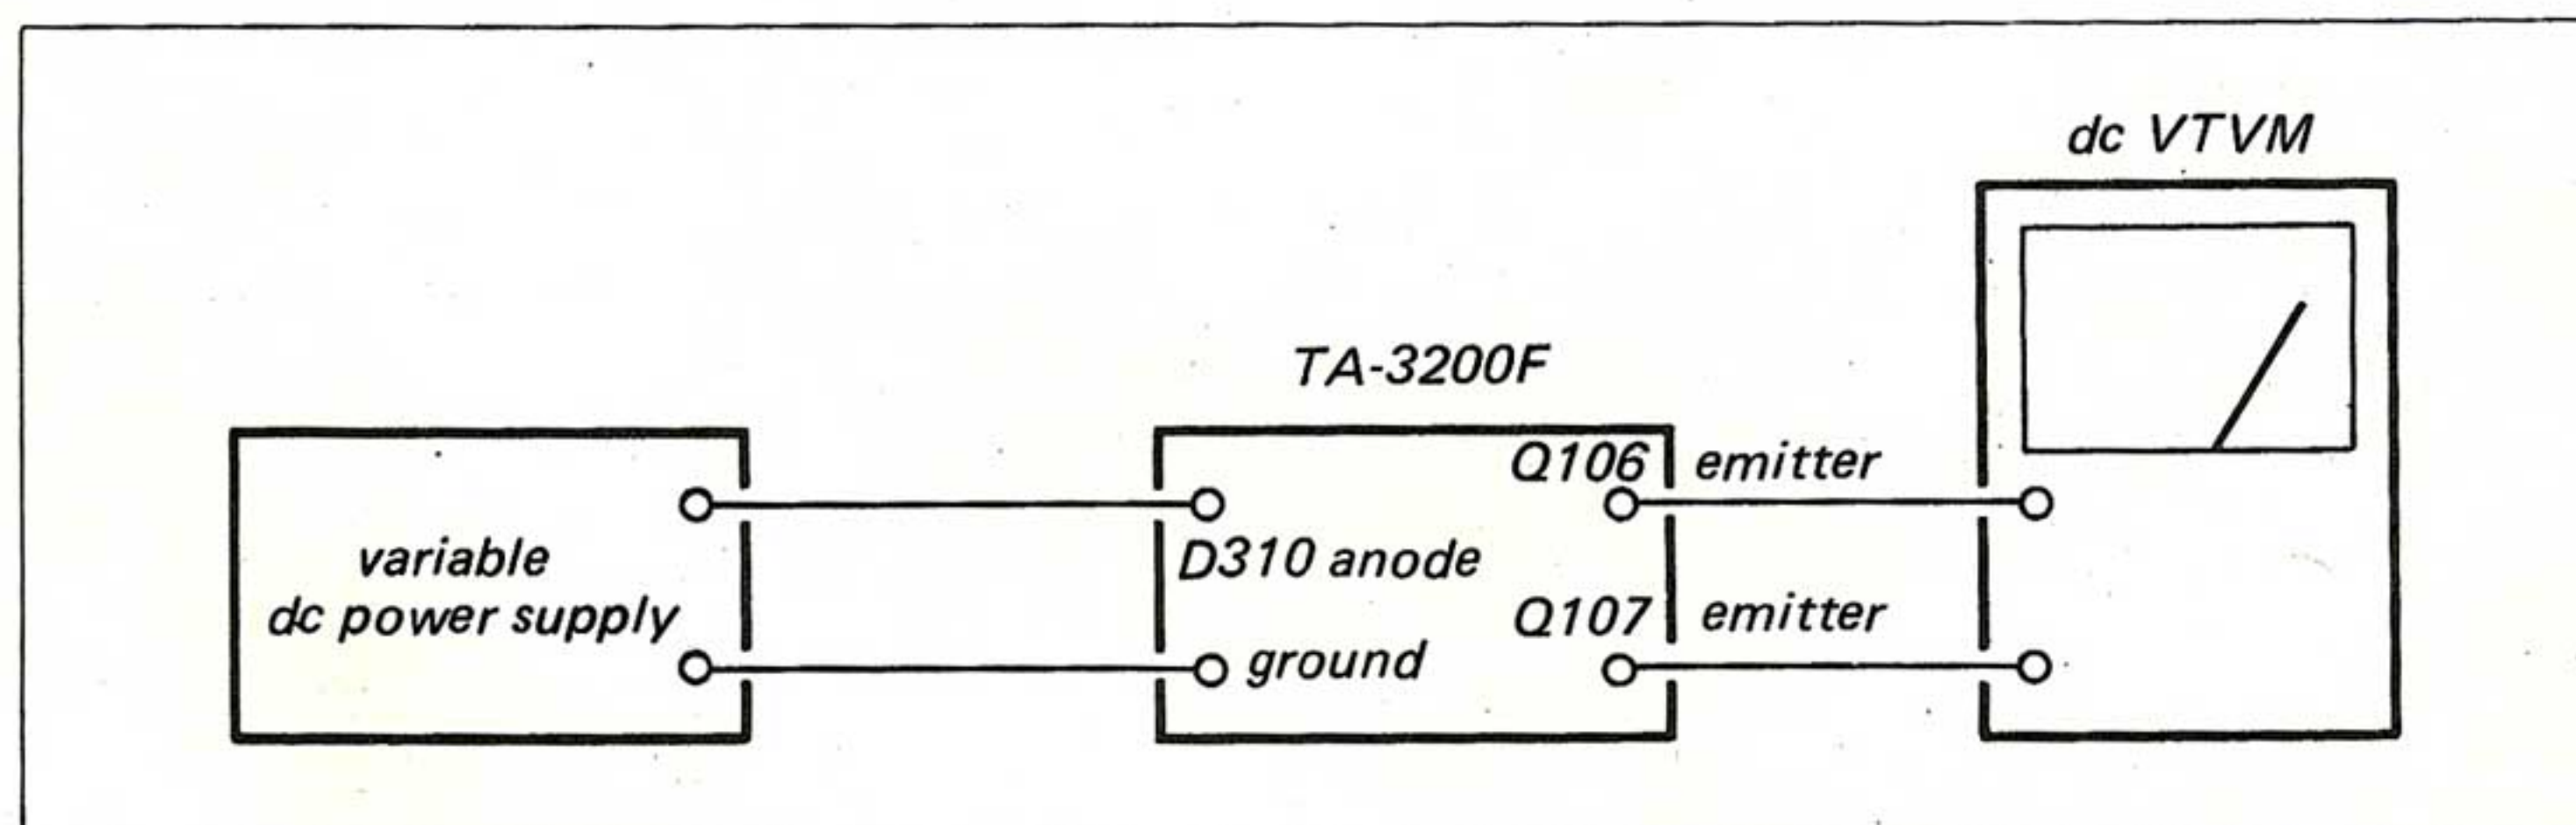

Fig. 3-4 Speaker protection circuit adjustment test setup.
1. With the equipment connected as shown in Fig. 3-4, turn the POWER switch to ON. The voltmeter will indicate 2.4 V reading.